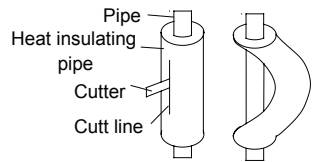

Fig.11
- (2). Do not bend the pipes in an angle more than 90°.
- (3). When pipes are repeatedly bent or stretched, the material will harden, making it difficult to bend or stretch them any more. Do not bend or stretch the pipes more than three times.
- (4). When bending the pipe, do not bend it as is. The pipe will be collapsed. In this case, cut the heat insulating pipe with a sharp cutter as shown in Fig.11, and bend it after exposing the pipe. After bending the pipe as you want, be sure to put the heat insulating pipe back on the pipe, and secure it with tape.